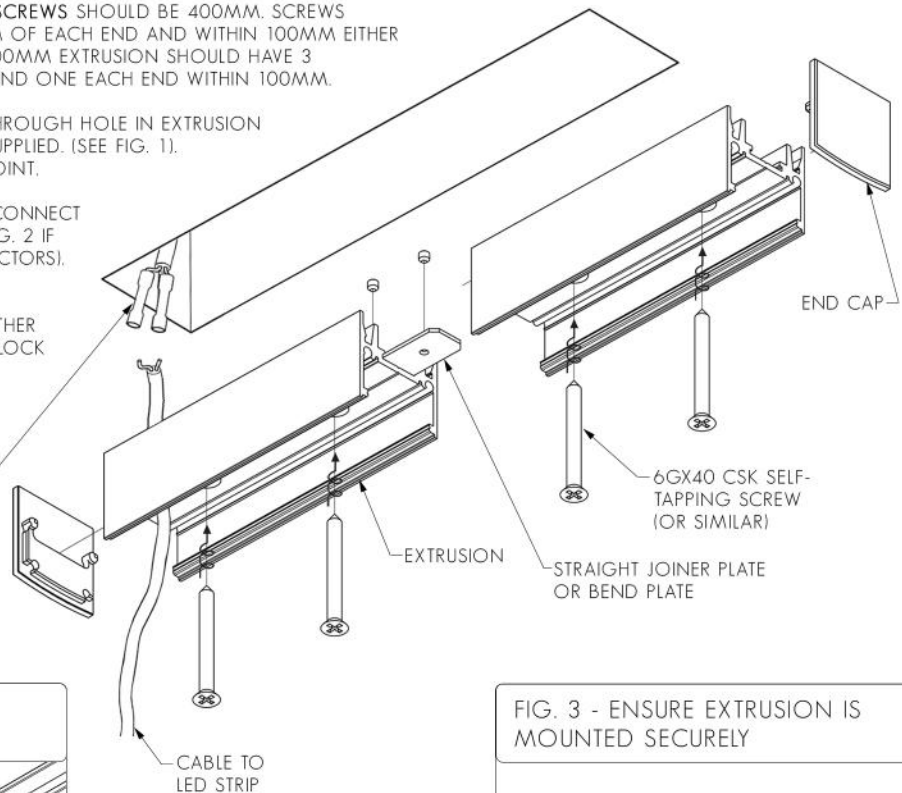

FIG. 1 - FASTEN CABLE USING CORD GRIP
1. FEED LED STRIP TAILS (OR CABLE) THROUGH HOLE IN EXTRUSION AND CLAMP USING CORD GRIP, IF SUPPLIED. (SEE FIG. 1). DO NOT INSTALL LED STRIP AT THIS POINT.